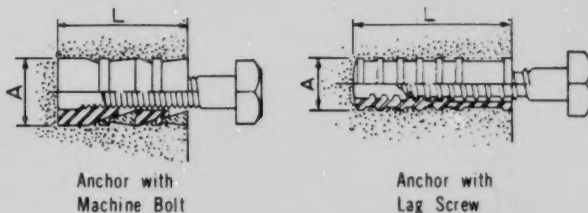

Figure 17-30. Metal Insert Anchors
c) There are also many types of metal insert anchors for use with machine bolts and lag screws. Two are shown in Figure 17-30.